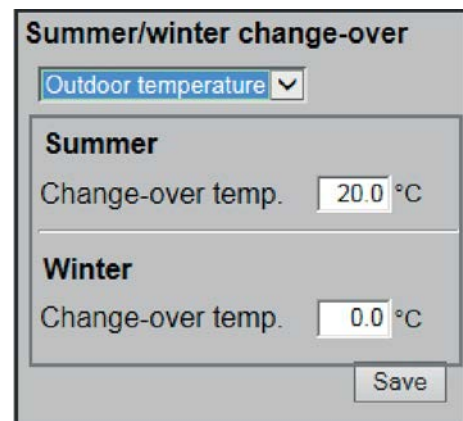

Fig. 37: Outdoor air temperature
- ▶ If you choose 'Outdoor temperature' as the type of control, you also have to set the summer and winter change-over temperatures (Fig. 37).